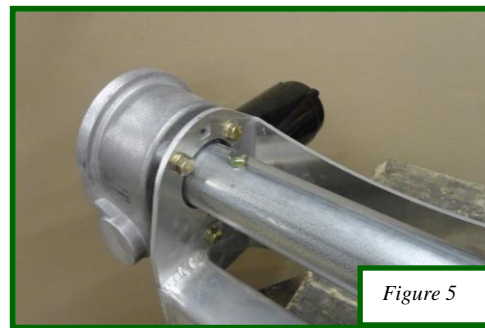

Figure 5
Step 2: Rear Rolltube and Rear Rolltube Bracket Installation (See Figure 5)
Insert the motor into the Rear rolltube and insert a 5/16" x 3" bolt through the predrilled hole. Bolt the motor to the bracket with 5/16" x 3/4" bolts and lock washers. (See Figure 5)